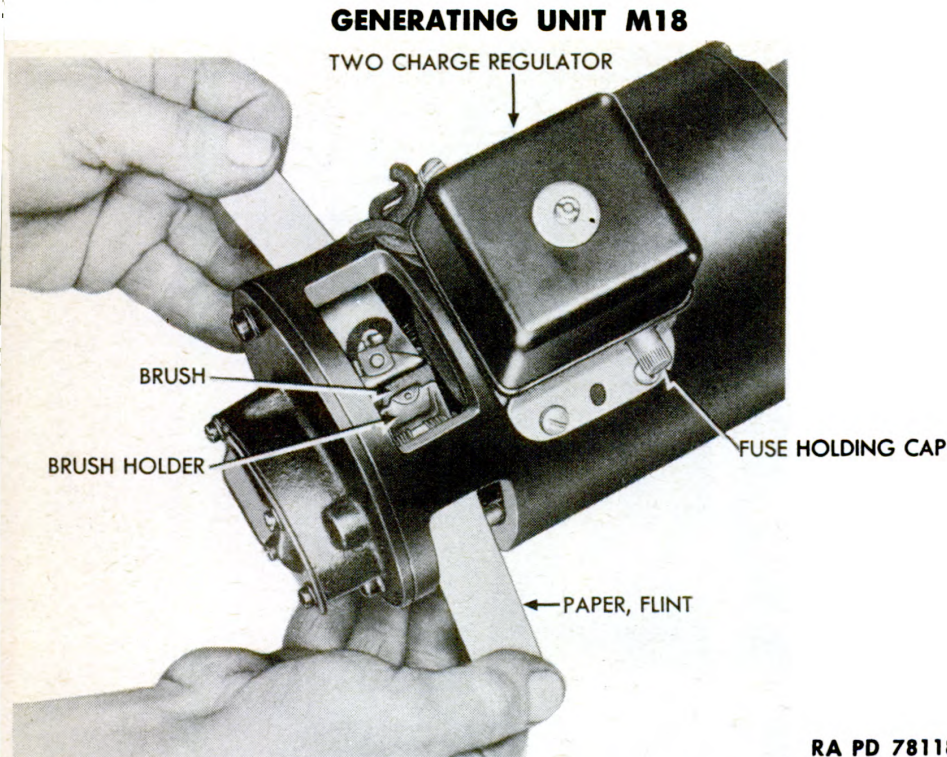

Figure 51 – Fitting Generator Brush to Commutator
(1) To inspect the battery-charging generator, remove the cover at the commutator end. If the commutator is discolored or dirty, it can be cleaned by holding a piece of PAPER, flint, class B, No. 00, against it while the generator is running slowly.
(2) BRUSHES.
(a) If brushes are badly worn, new brushes should be installed. The brushes should be fitted to have at least 80 percent brush surface contact with the commutator. To fit the brushes, clean the commutator (step (1), above); then wrap around the commutator a piece of PAPER, flint, class B, grade No. 00, of the same width as the commutator, and move it back and forth along the commutator with sanded face against brushes (fig. 51). Turn the commutator clockwise from drive end until brushes seat properly. Blow the generator out with compressed air to remove all particles of abrasive. Never use CLOTH, abrasive, aluminum-oxide, oil, or grease on commutators.